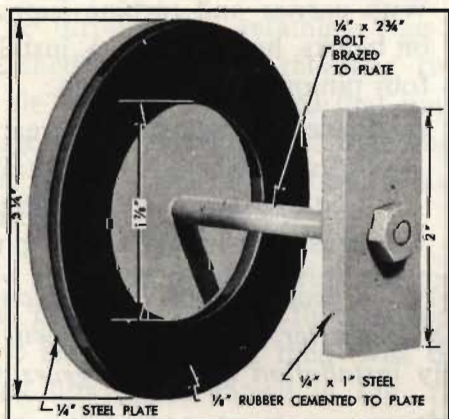

Fig. 12. Plate and washer for pump test
1. To close the converter pump hub opening, make a fixture as shown in Fig. 12.